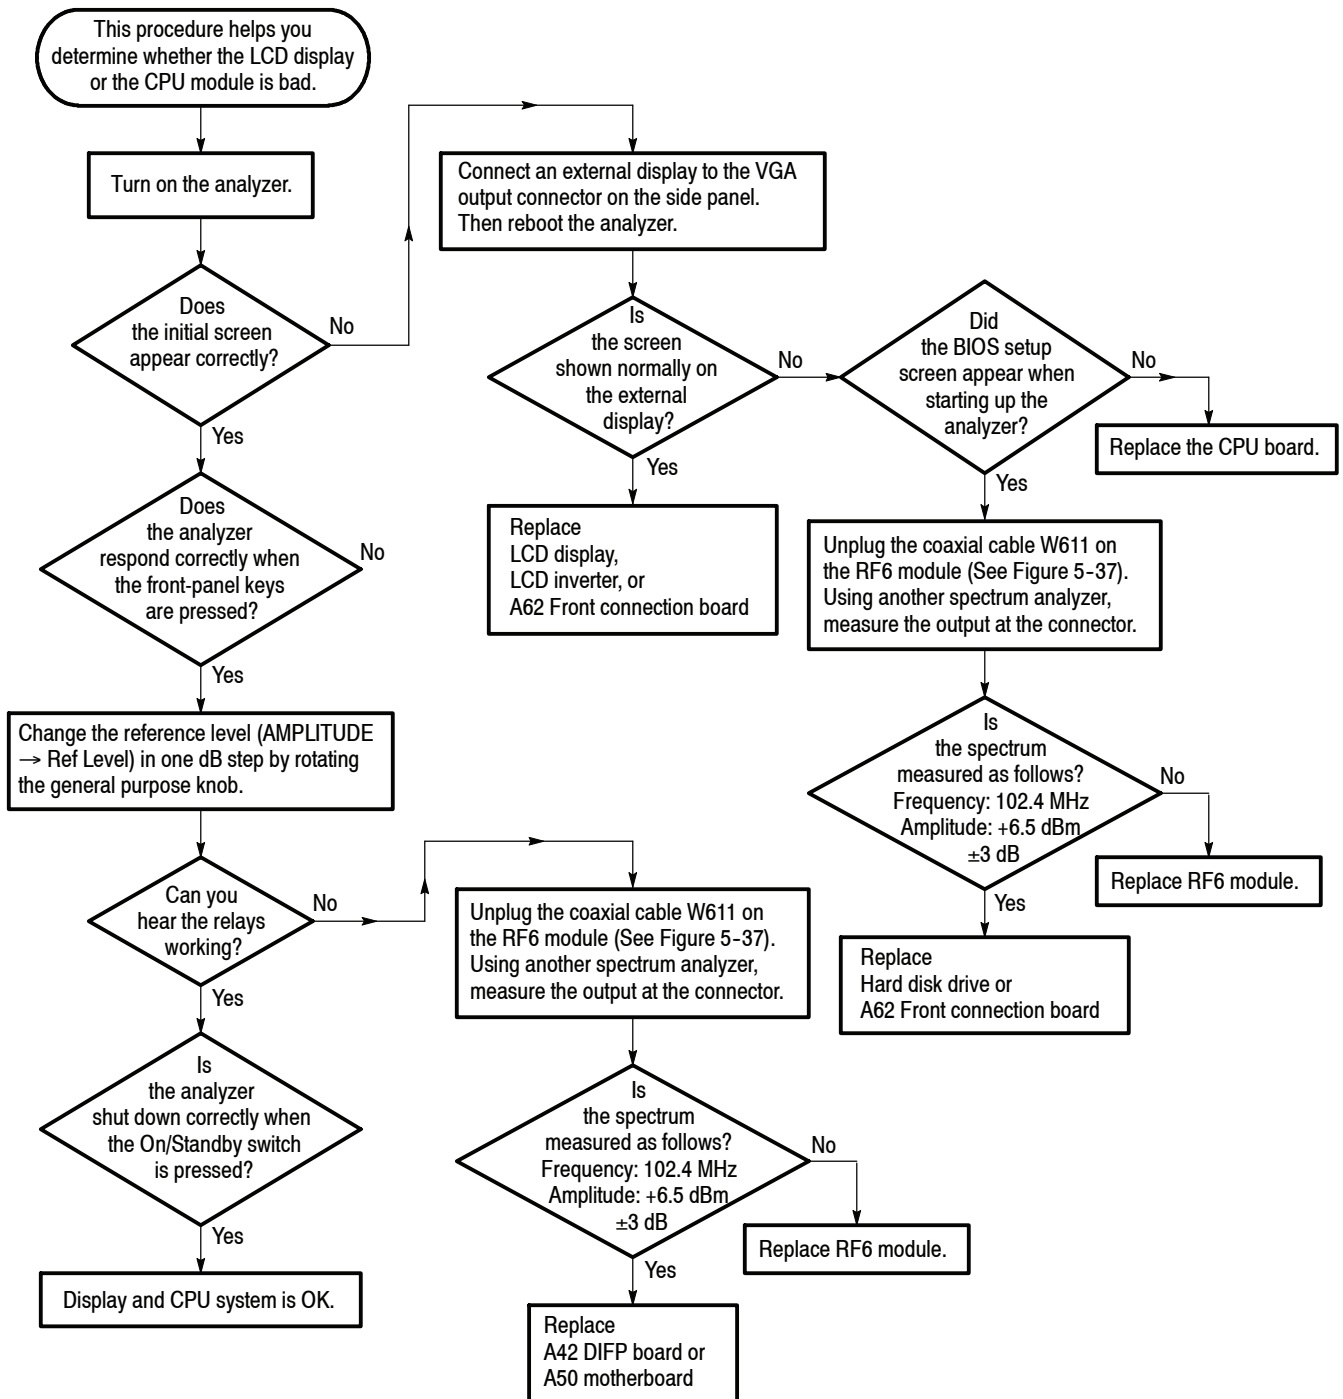

Figure 5-35: Troubleshooting procedure 2 — Display and CPU system
- Figure 5-35: Troubleshooting Procedure 2 — CPU and Display system